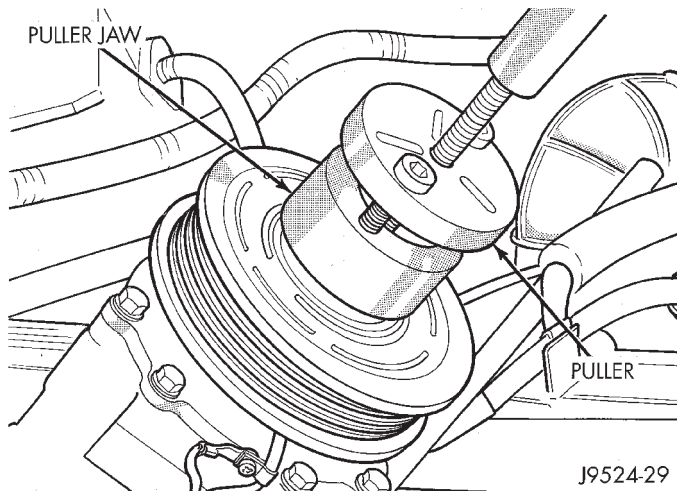

Fig. 23 Install Puller Plate
- (11) Install the puller through-bolts (Special Tool C-6461) through the puller flange and into the jaws of the rotor puller and tighten (Fig. 23). Turn the puller center bolt clockwise until the rotor pulley is free.